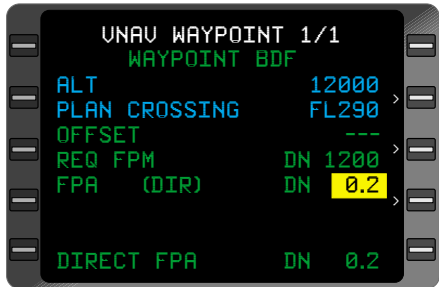

Figure 3-135
- 6. **ALT** - INSERT or VERIFY. If an altitude constraint has already been programmed, the cursor will be displayed over the **FPA (DIR)** field value. You may proceed to Step 10. (Figure 3-135)
*NOTE: Direct Flight Path Angle prefills if it is within the valid range (0.1 to 6.0). (Figure 3-135)*